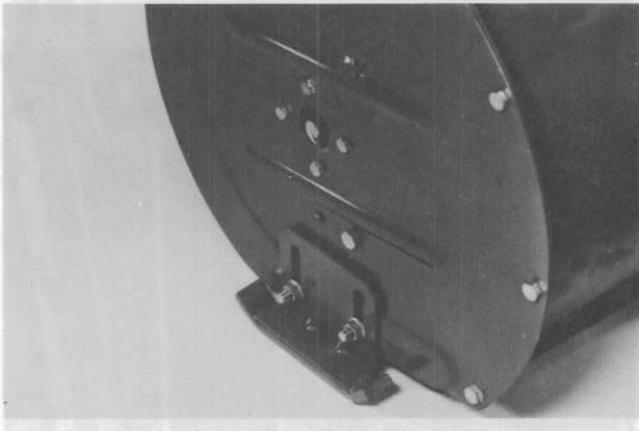

Figure 36
7. Thread pipe plug back into gear box (Fig. 36).
1. Move snowthrower to a level surface. Loosen four flange nuts (Fig. 36) securing both skids to auger side plates until skid can be moved up and down.
4. When using snowthrower on gravel or crushed rock surfaces, loosen four flange nuts (Fig. 36) securing both skids to auger side plates. Slide skids down as far as possible so auger is as far from the level surface as skid adjustment allows; then tighten flange nuts.